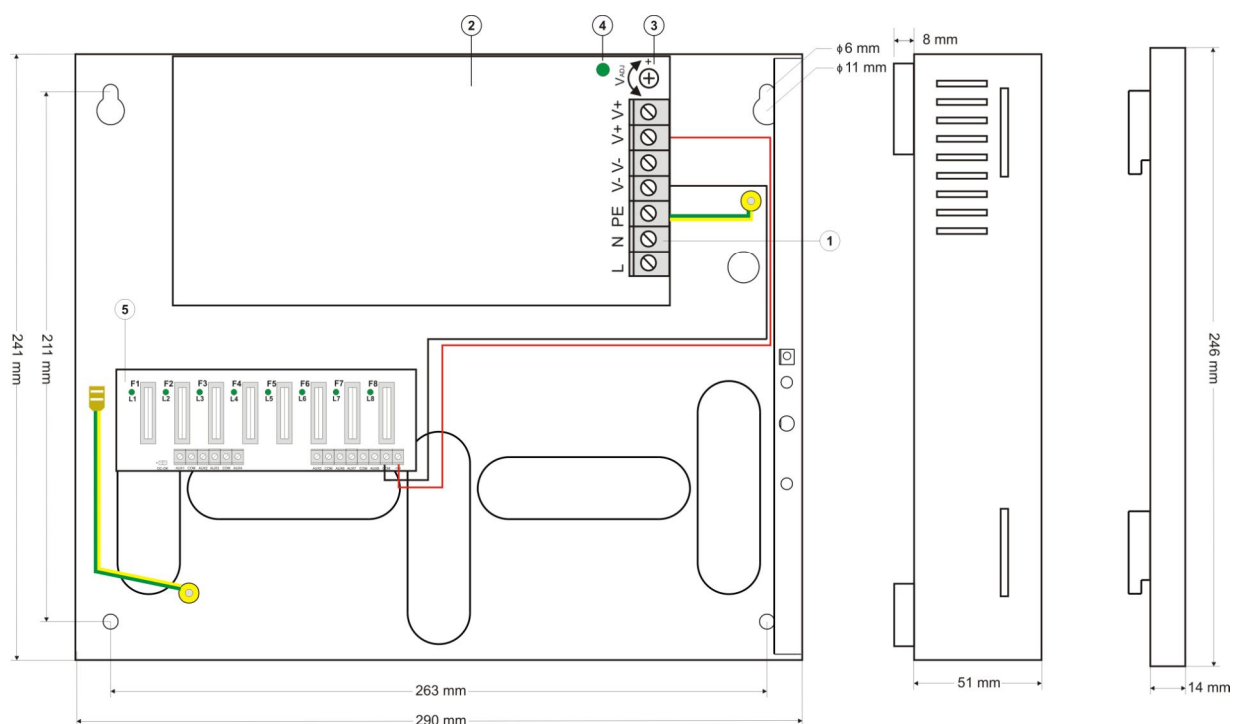

Fig.3. The view of the PSU.
**Table 2. Elements of the PSU (see fig. 3).**